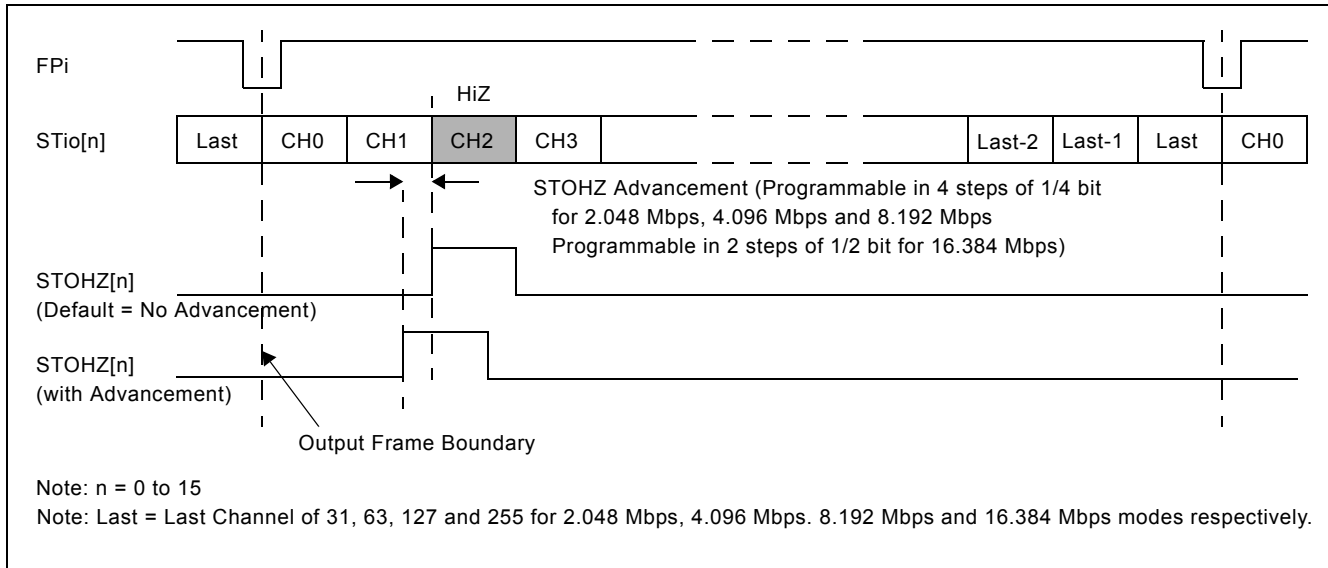

Figure 16 - Channel Switching External High Impedance Control Timing
There are 16 external high impedance control signals, STOHZ0 - 15, that are used to control the external drivers for per-channel high impedance operations. Only the first sixteen ST-BUS/GCI-Bus (STio0 - 15) outputs are provided with corresponding STOHZ signals. The STOHZ outputs deliver the appropriate number of control timeslot channels based on the output stream data rate. Each control timeslot lasts for one channel time. When the ODE pin is high and the OSB (bit 2) of the Control Register (CR) is also high, STOHZ0 - 15 are enabled. When the ODE pin, OSB (bit 2) of the Control Register (CR) or the RESET pin is low, STOHZ0 - 15 are driven high, together with all the ST-BUS/GCI-Bus outputs being tristated. Under normal operation, the corresponding STOHZ outputs of any unused ST-BUS/GCI-Bus channel (high impedance) are driven high. Refer to Figure 16 on page 27 for a diagrammatical explanation.